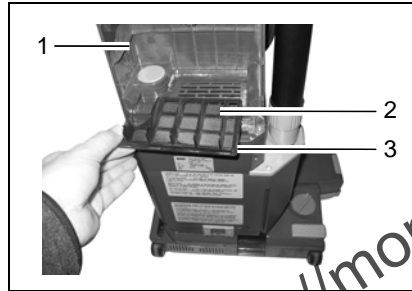

Fig. 8
1. Open the filter compartment (Fig. 8/1) and remove the protection filter in accordance with Fig. 8.
2. Open up the filter support (Fig. 8/3), remove the filter cloth (Fig. 8/2) and clean it.